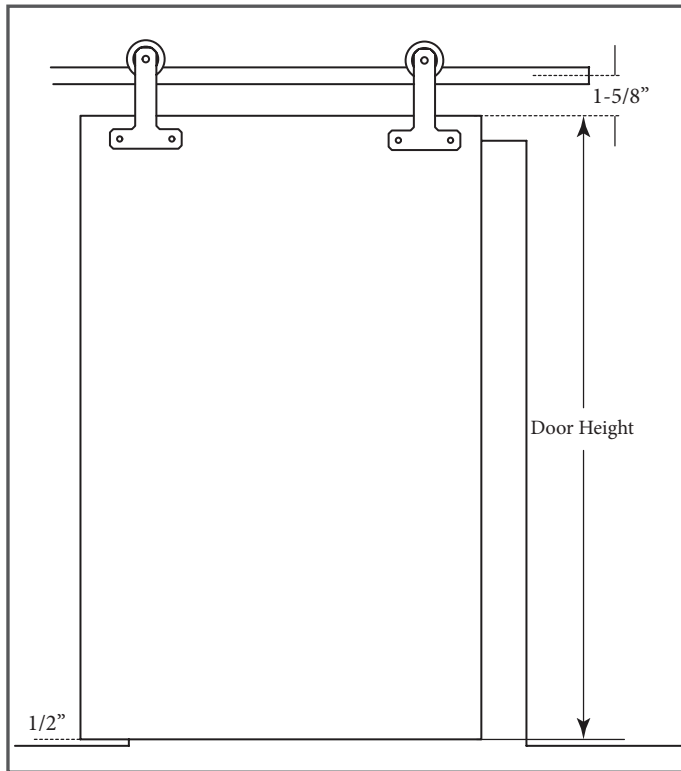

Figure 1
1. To determine where the track should be installed, first measure the height of the door, then add 2-1/8" to the door height. 1/2" will be for the clearance between the bottom edge of the door and the floor. 1-5/8" will be from the top edge of the door to the center of the track. (Figure 1).